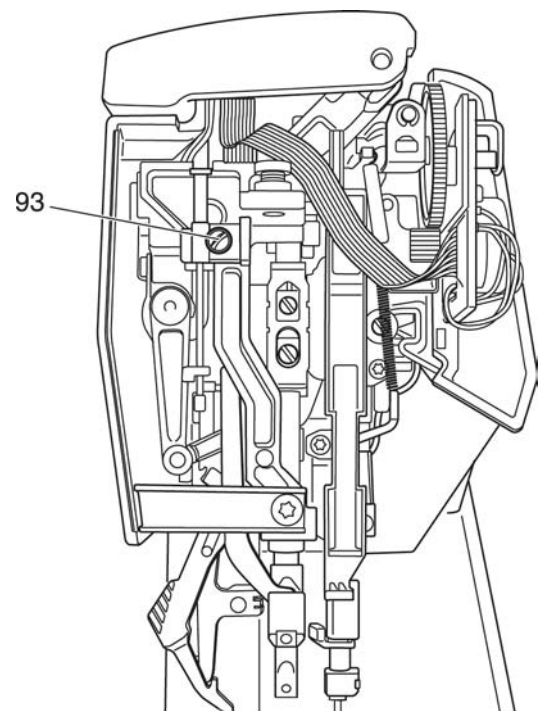

Fig. 48d
- Remove screw 93 from the Bowden cable's clamping plate (Fig. 48d).